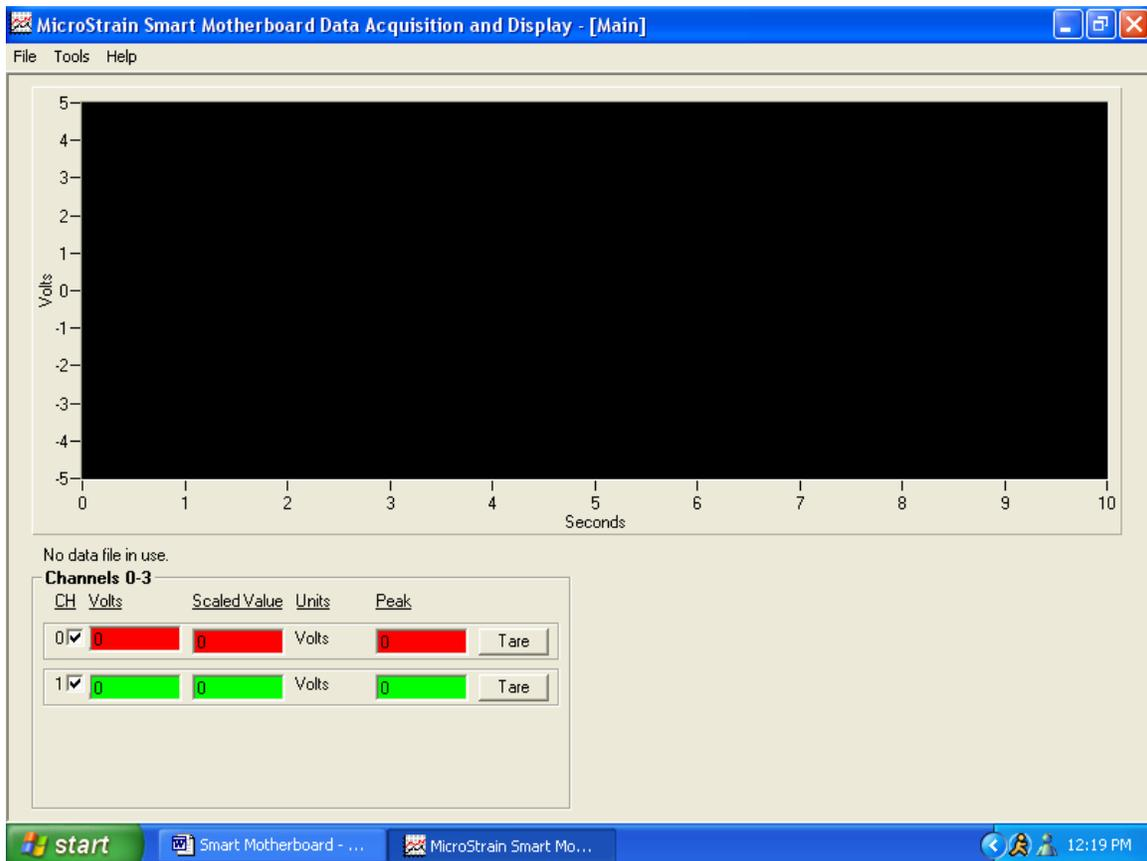

Figure 1.
- The default configuration will be automatically loaded and the screen will appear like the example shown in figure 1.